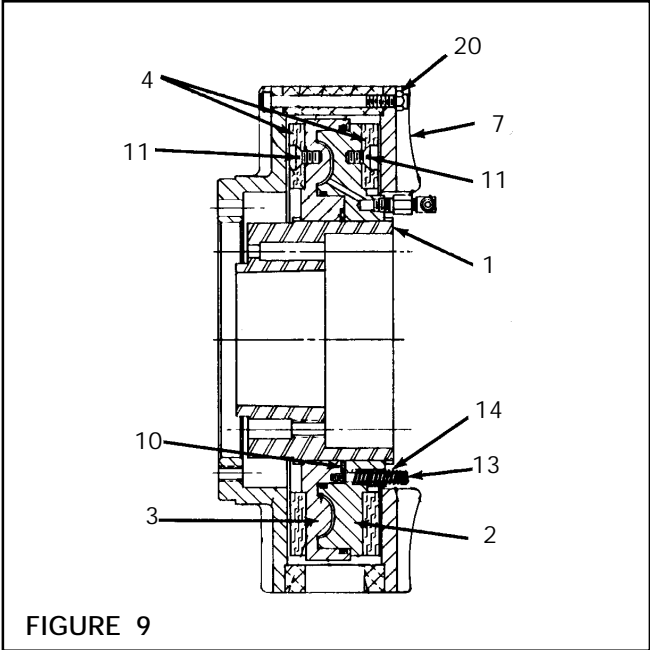

FIGURE 9
2. Remove Lock Nuts (Item 20) (See Fig. 9).
3. Remove the Friction Disc (Item 7) (See Fig. 9).
4. Remove the Shoulder Screws (Item 13), and Springs (Item 14) (See Fig. 9).
5. Slide the Piston/Drive Disc (Item 2) off the Splined Hub (Item 1) (See Fig. 9).
6. Remove the Retaining Ring (Item 10) (See Fig. 9).
7. Slide the Cylinder/Drive Disc (Item 3) off the Splined Hub (Item 1) (See Fig. 9).
8. Remove Machine Screws (Item 11), and replace worn Friction Facings (Item 4) (See Fig. 9).